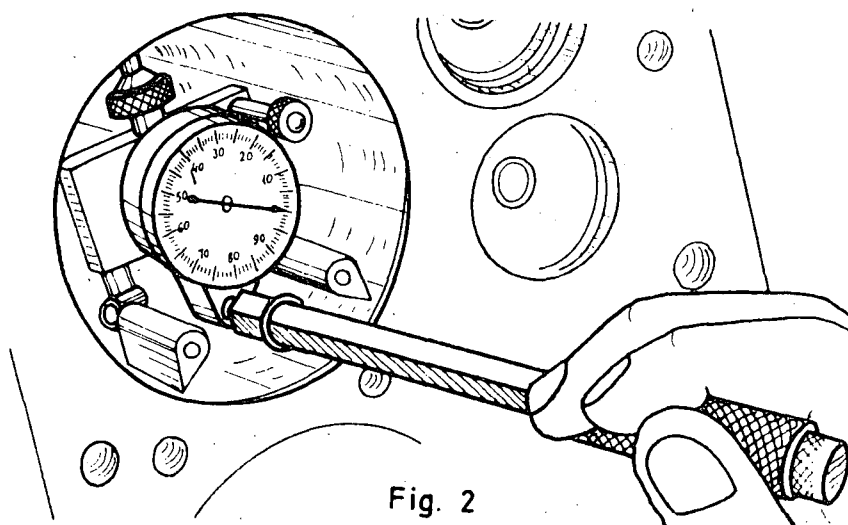

Fig. 2
- d) Measure the inside of the cylinder with a micrometer so as to determine if there is ovalness or taper, paying attention to the specifications (fig. 2).